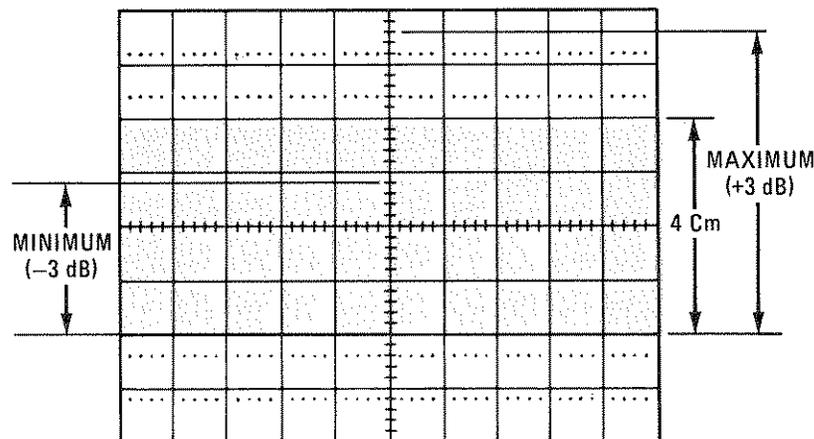

Figure 5-32. FM Flatness Tolerance, DC to 2 MHz
10. Check that ± 3 dB flatness specification is met between DC and 2 MHz as follows. Manually sweep the function generator frequency between DC and 2 MHz. On the oscilloscope, note maximum and minimum response points (Figure 5-32). Maximum point (+3dB) can be up to 5.6 divisions, and minimum point (-3 dB) can be down to 2.8 divisions.